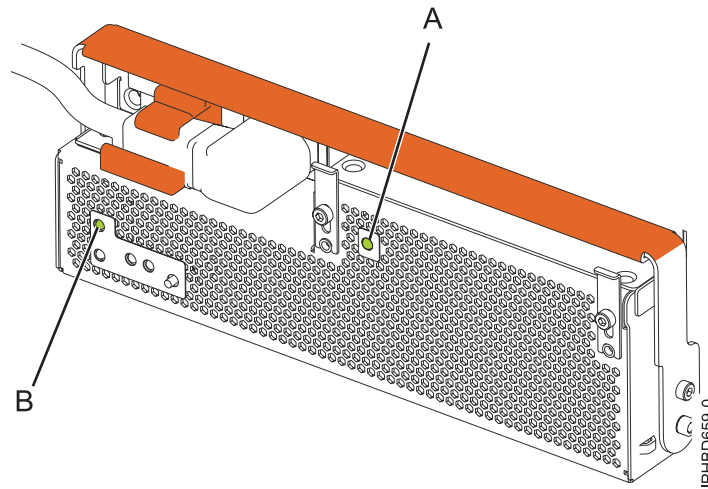

Figure 21. Expansion unit ac power and OCA power LEDs
10. Note the state of the green ac power in (A) and offline converter assembly (OCA) power (B) light-emitting diodes (LEDs) shown in Figure 21, and do one of the following actions, as applicable:
- If the LEDs indicate that the power supply is operating normally, that is, that the ac power in LED (A) is on solid and the OCA power (B) LED is on solid or flashing, continue to the next step.
- If the LEDs indicate that the power supply is not operating normally, that is, that the ac power in LED (A) is flashing or off and the OCA power (B) LED is off, remove the power supply from the expansion unit and repeat the procedure starting with step 6 on page 18. If, after repeating the procedure, the power supply is not operating normally, contact your service provider.